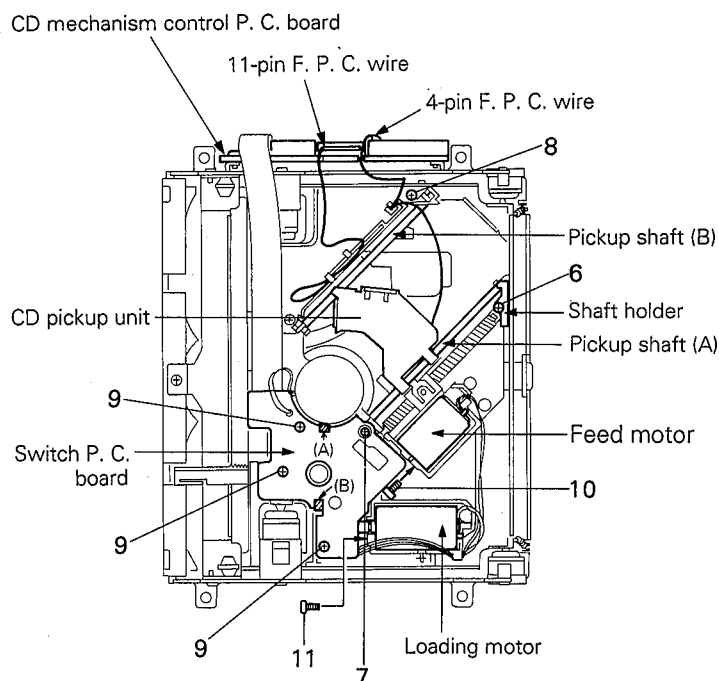

Fig. 6-7
■ Removal of CD pickup (Figs. 6-7, 6-8, 6-9)
3. Place the CD mechanism assembly to expose the bottom side upward, and remove a screw "6" retaining the pickup shaft (A) to remove it together with the shaft holder.
4. Loosen a screw "7" retaining the pickup shaft (A) in the other side.
5. Loosen a screw "8" retaining the pickup shaft (B).
■ Removal of feed motor and loading motor assembly (Fig. 6-7)